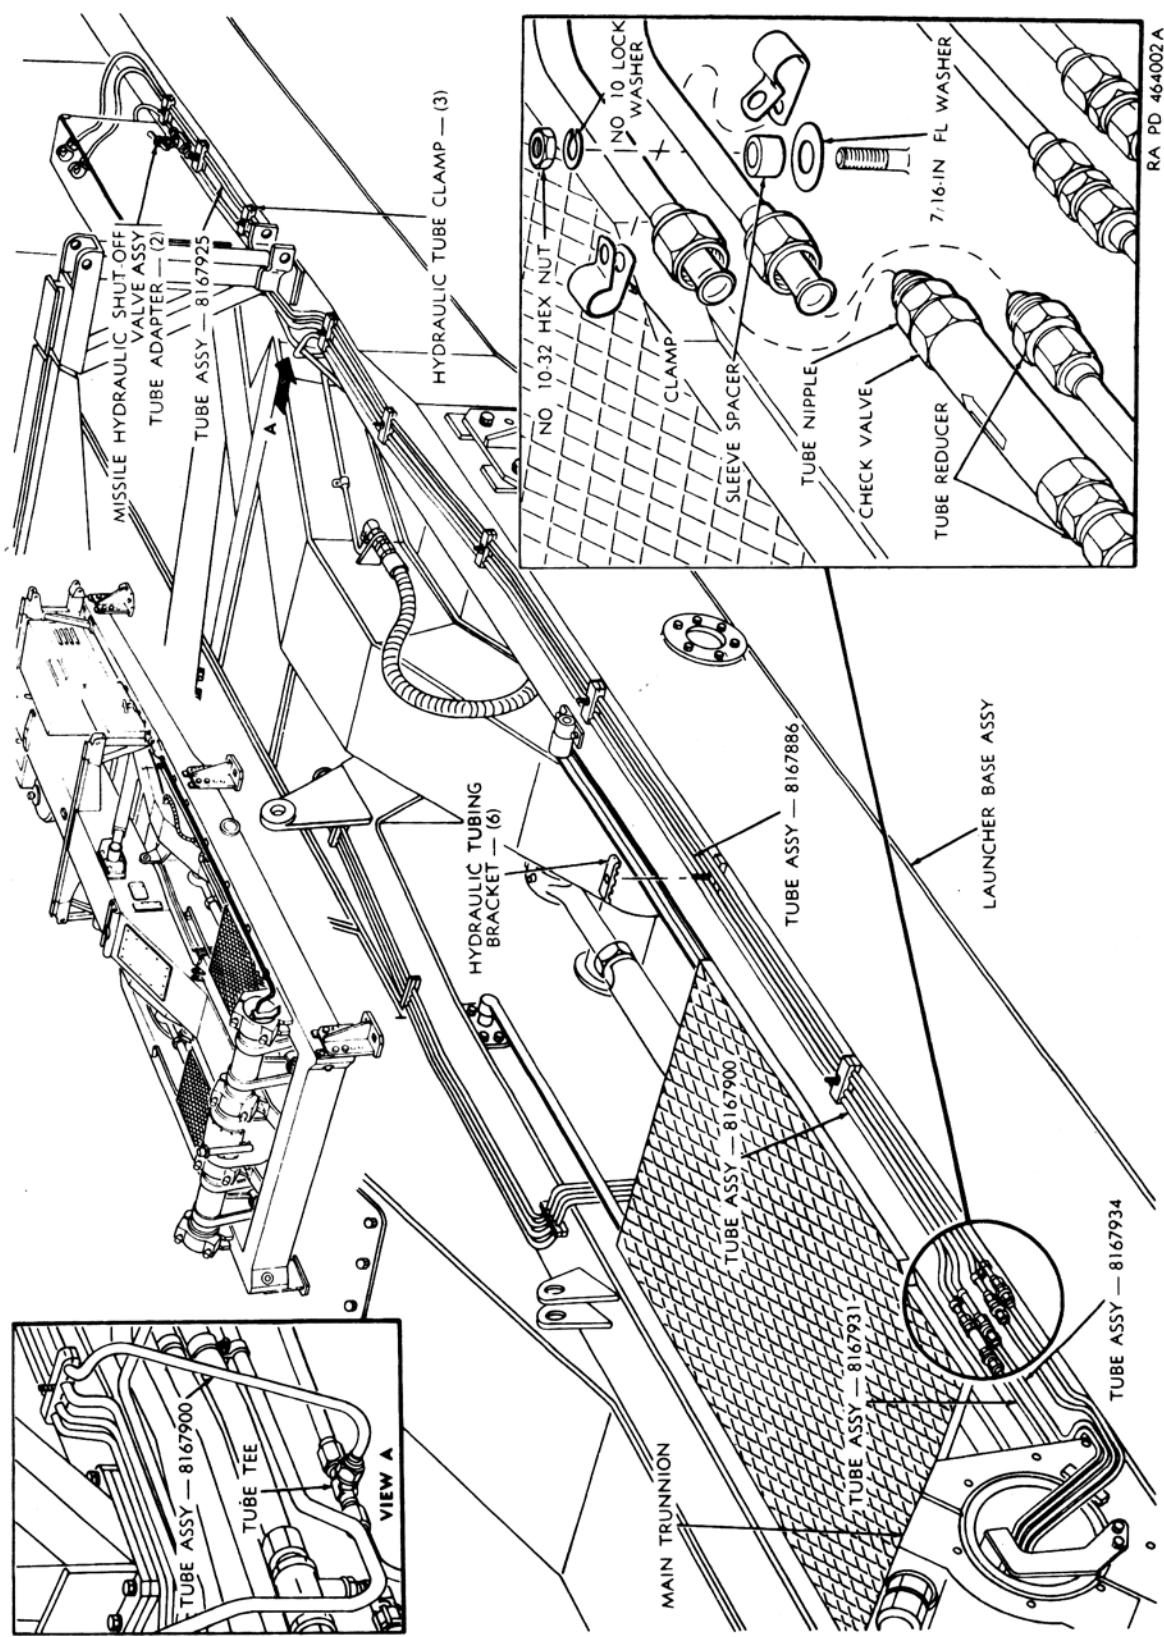

Figure 204. Missile hydraulic system network—removal and installation—continued.
- (10) Remove six hydraulic tubing brackets (fig. 204) and three hydraulic tube clamps.
- (11) Remove tube assemblies, MISSILE HYDRAULIC SHUT-OFF valve assembly, and two tube adapters.
- (12) Remove tube tee.
- (13) Remove check valve and tube nipple.
- (7) Install tube assemblies (fig. 204), three hydraulic tubing clamps, six hydraulic tubing brackets, tube nipples, and check valve.
- (8) Install MISSILE HYDRAULIC SHUT-OFF valve assembly, two tube adapters, and tube tee.
- (9) Torque coupling nuts of tube assemblies to values specified in b(1) above.